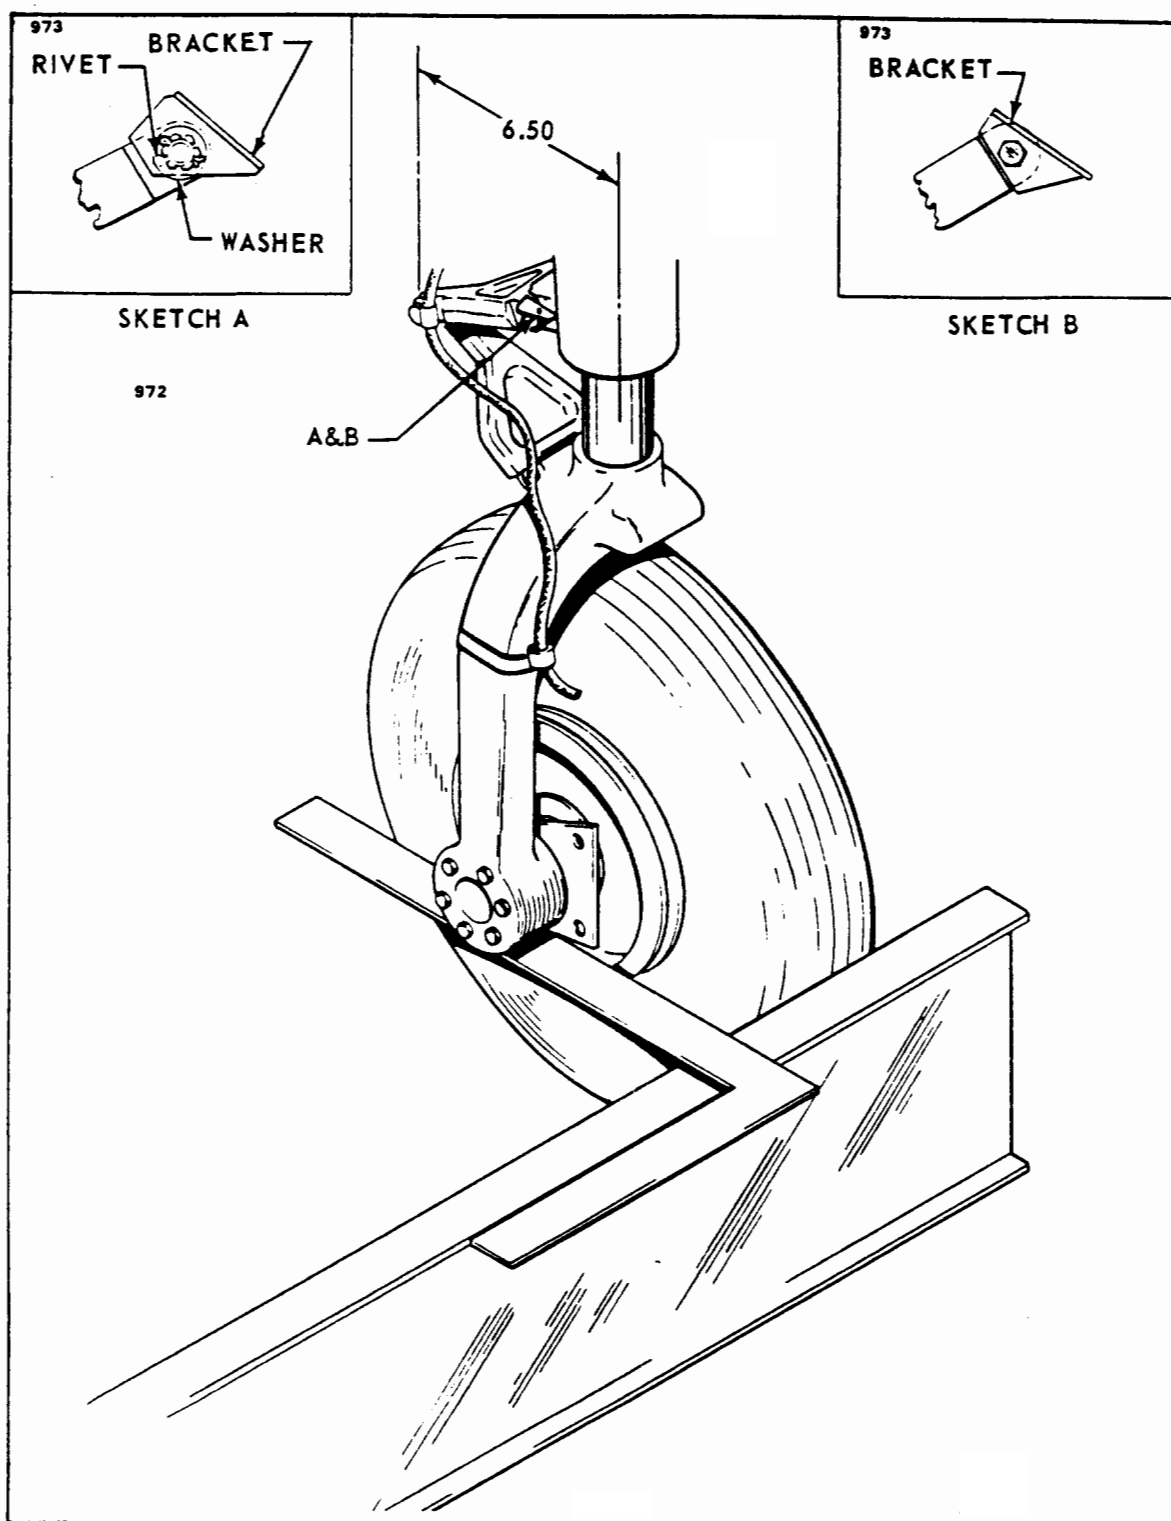

Figure 7A-10. Aligning Main Gear
- a. Place a straightedge no less than twelve feet long across the front of both main landing gear wheels. Butt the straightedge against the tire at the hub level of the landing gear wheels. Jack the airplane up just high enough to obtain a six and one-half inch dimension between the centerline of the strut piston and the centerline of the center pivot bolt of the gear torque links. (Refer to Figure 7A-10.) Devise a support to hold the straightedge in this position.
- b. Set a square against the straightedge and check to see if its outstanding leg bears on the front and rear side of the brake disc. (It may be necessary to remove the brake assembly to have clear access to the disc.) (Refer to Figure 7A-10.) If it touches both forward and rear flange, the landing gear is correctly aligned. The toe-in for the main landing gear wheels is $0 \pm 1/2$ degrees.